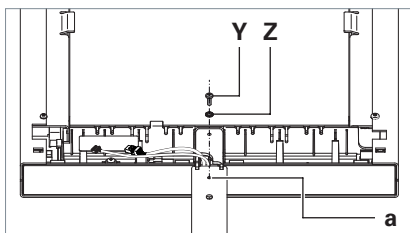

Fig. 12: Securing the luminaire head.
- ▶ Screw the screw **Y** along with the toothed washer **Z** into the bore **a** on the support tube and tighten the screw, see Fig. 12.